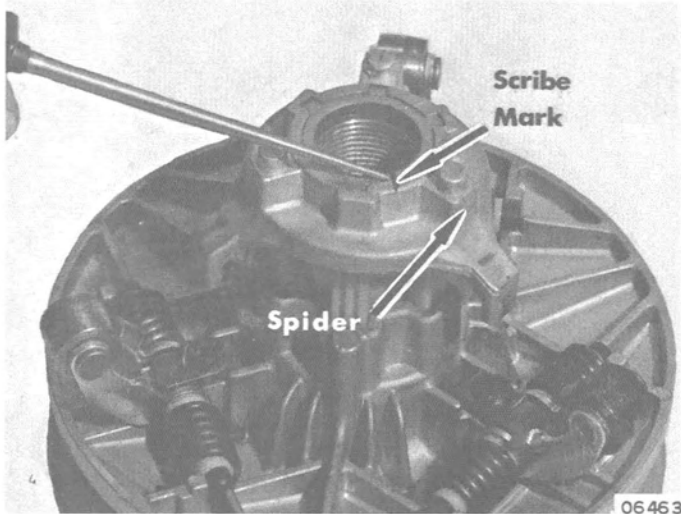

Figure 5. Scribing Spider
2. Scribe a mark to show position of spider. (Figure 5)